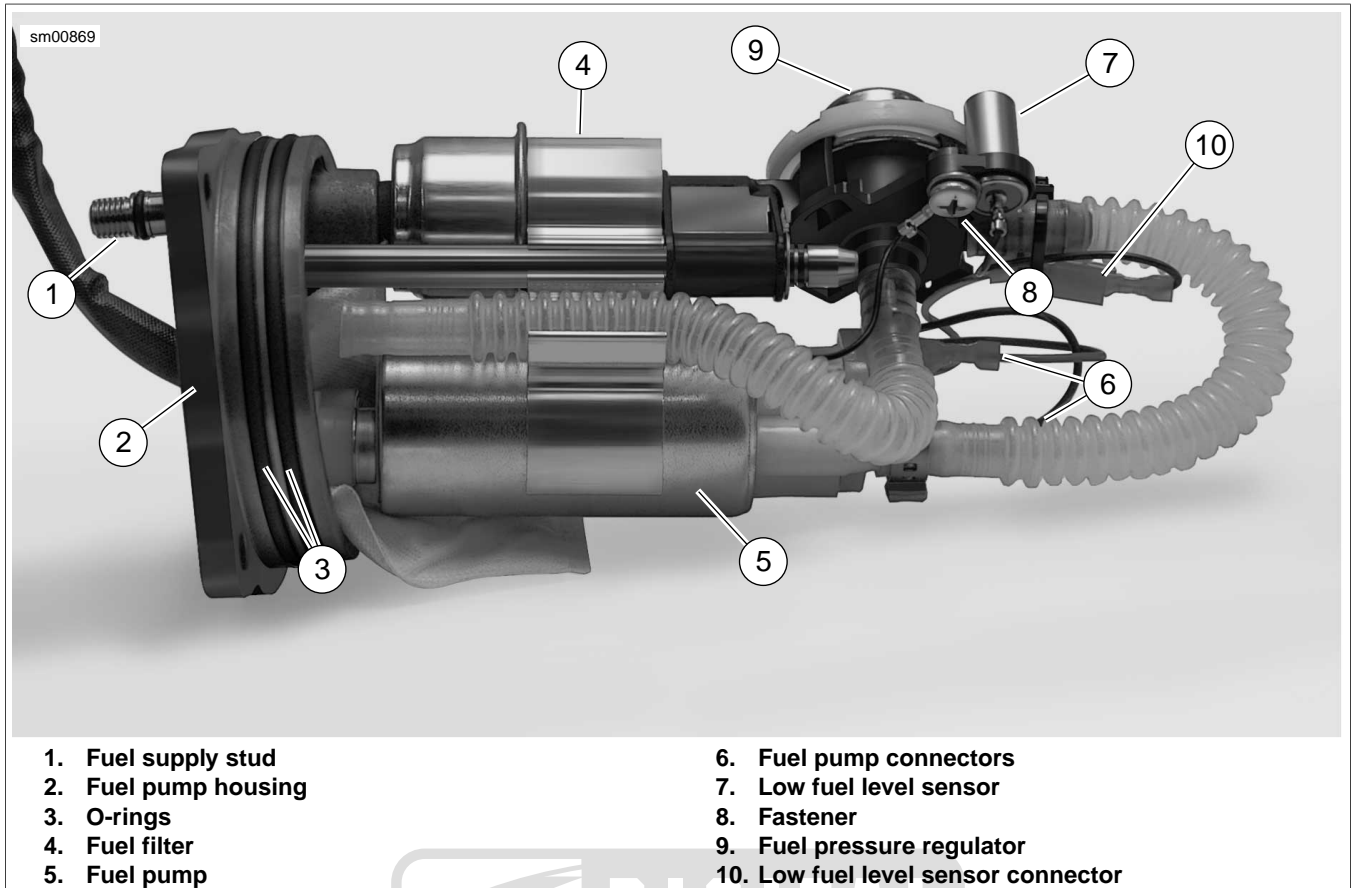

Figure 4-34. Fuel Pump Assembly
2. See Figure 4-34. Disconnect low fuel level sensor connector (10).
3. Remove screw (8) securing low fuel level sensor (7) in place.
5. Install screw (8) securing sensor and tighten to 18-22 **in-lbs** (2.0-2.5 Nm).
6. Attach low fuel level sensor wire connector (10).